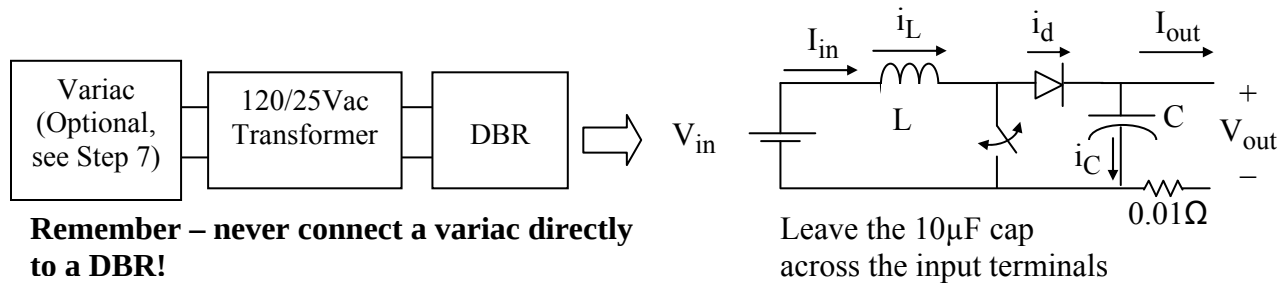

Figure 1. DC-DC Boost Converter
The idealized boost converter circuit is shown below in Figure 1. Under normal operation, the circuit is in “continuous conduction” (i.e., i_L is never zero)
1. Convert a buck converter to a boost converter, using the circuit shown in Figure 1 of this document.